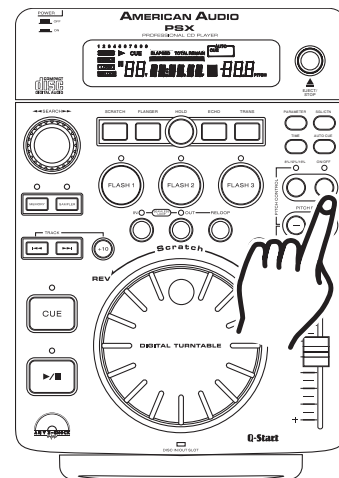

Figure 39
Adjusting the Pitch Slider's Range (17): You may change the pitch slider's (17) operating range. To change the operating range be sure the pitch function is turned on, see figure 39. The pitch percentage can be changed between +/- 8%, +/-12%, and +/-16%. 8% will allow the least amount of pitch manipulation and 16% will allow the most amount of pitch manipulation. To adjust to the different values tap the 8% 12% 16% **BUTTON** (23). The LED above the **PITCH PERCENTAGE BUTTON** (23) will indicate which pitch percentage mode you are in by, glowing green for 8%, glowing orange for 12%, or glowing red for 16%. Note, the pitch percentage must be activated to get a LED reading.